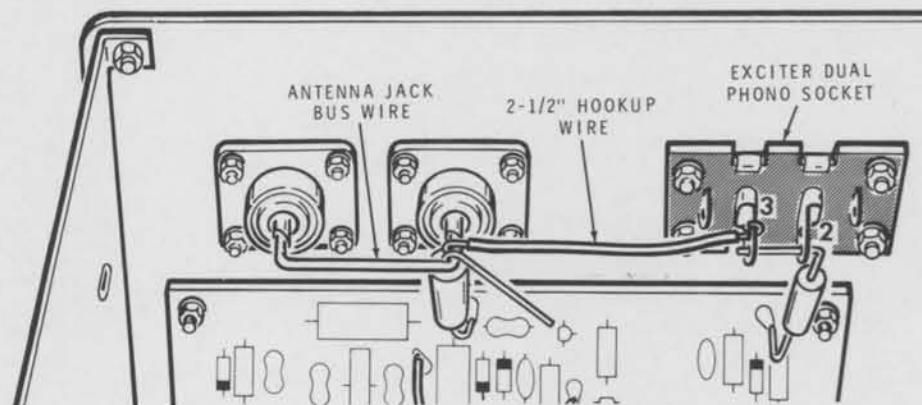

Figure 3-2
- ( ) Refer to Figure 3-2 and temporarily connect a 2-1/2" length of hookup wire from the Antenna jack bus wire to lugs 2 and 3 of the EXCITER dual phono socket.